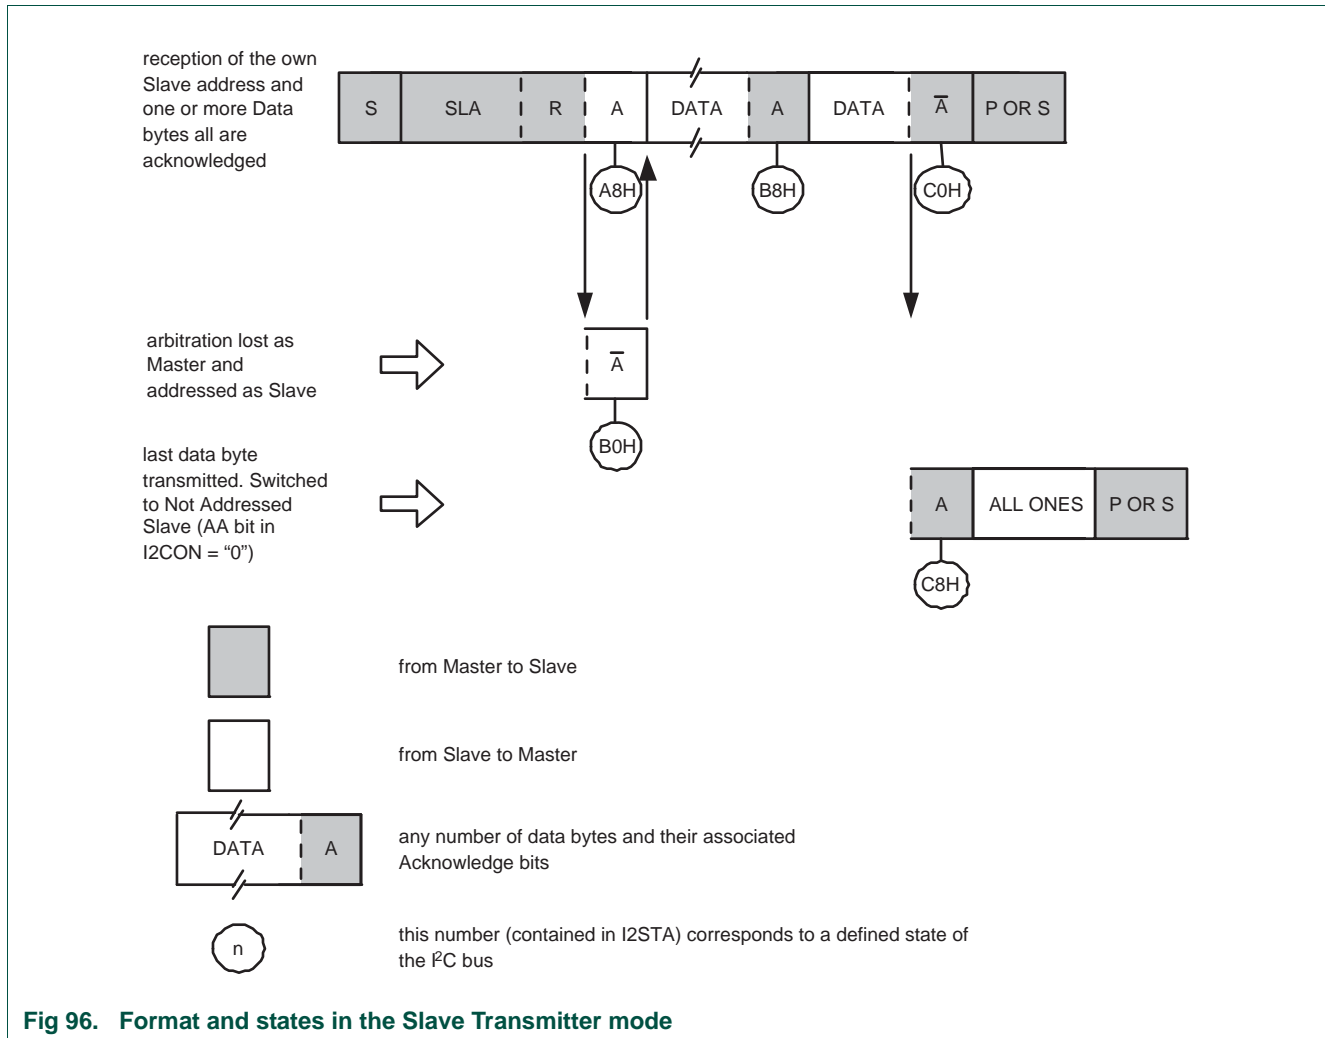

Fig 96. Format and states in the Slave Transmitter mode
Data transfers in each mode of operation are shown in Figure 93, Figure 94, Figure 95, Figure 96, and Figure 97. Table 395 lists abbreviations used in these figures when describing the I²C operating modes.
In the slave transmitter mode, a number of data bytes are transmitted to a master receiver (see Figure 96). Data transfer is initialized as in the slave receiver mode. When I2ADR and I2CON have been initialized, the I²C block waits until it is addressed by its own slave address followed by the data direction bit which must be “1” (R) for the I²C block to operate in the slave transmitter mode. After its own slave address and the R bit have been received, the serial interrupt flag (SI) is set and a valid status code can be read from I2STAT. This status code is used to vector to a state service routine, and the appropriate action to be taken for each of these status codes is detailed in Table 401. The slave transmitter mode may also be entered if arbitration is lost while the I²C block is in the master mode (see state 0xB0).